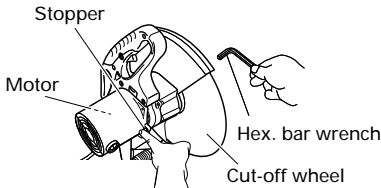

Fig. 1
**1. Dismounting the cut-off wheel (Fig. 1)**